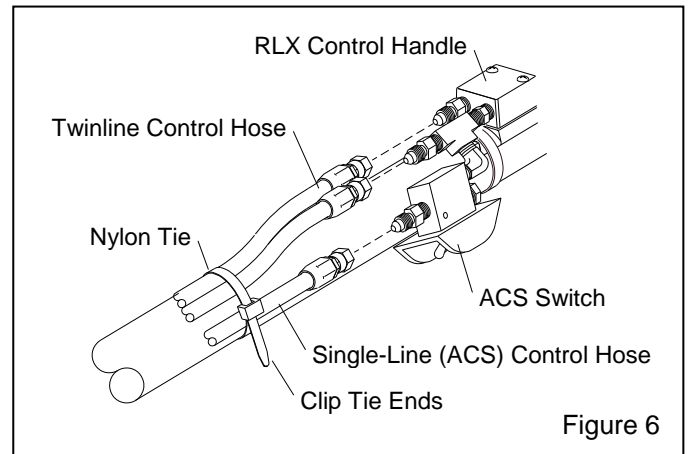

Figure 6
2.3.2.3 Attach the 50-ft. twinline hose to the two fittings on the back of the control handle as shown in Figure 6. Either side of the hose can be attached to either fitting.
2.3.2.6 Working from the control handle back, band the twinline and single-line hoses to the blast hose every four to six feet, as shown in Figure 6, and as close to the couplings as possible.